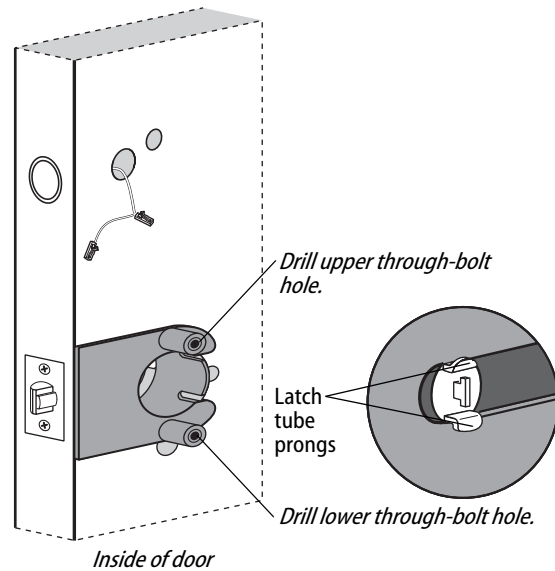

Figure 5 Installing the drill jig and drilling the through-bolt holes
- 1 Press the drill jig (KD303) onto the door, engaging it with the latch tube prongs (see the close-up in Figure 5). Make sure the front edge of the jig is parallel with the door edge.